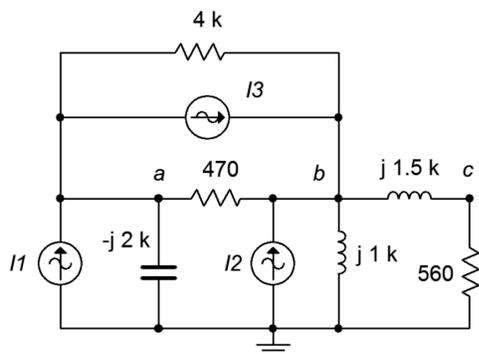

Figure 5.43
78. In the circuit of Figure 5.43, use any method or combination of methods to determine  $v_{ab}$ .  $I1 = 0.05\angle 0^\circ$ ,  $I2 = 0.1\angle 0^\circ$  and  $I3 = 0.2\angle 90^\circ$ .